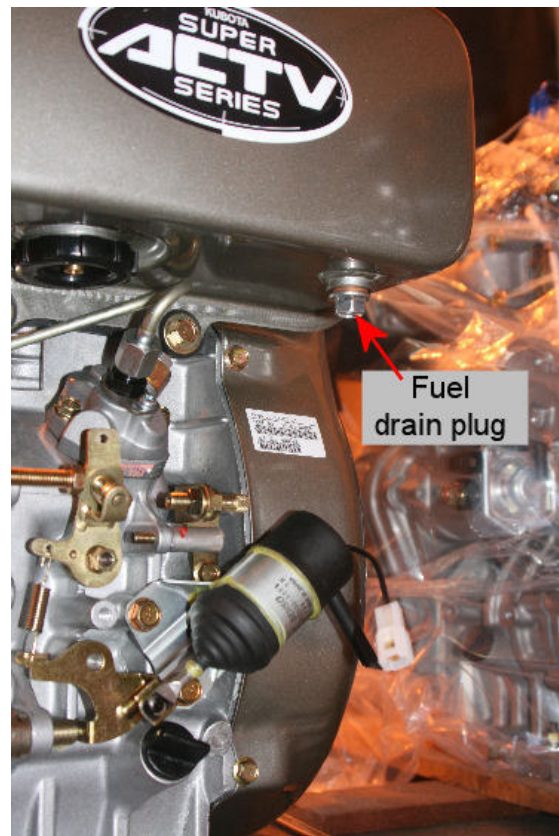

Fig 5-3 Fuel drain plug
6. To drain the fuel tank, arrange to collect the fuel in a suitable receptacle, remove the fuel filler cap, remove the fuel drain plug (*Fig 5-3*) and drain the tank.